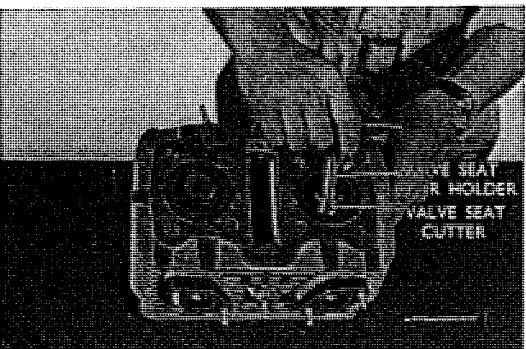

Fig. 3.36 Dressing valve seat
3. When a seat surface is excessively burned, dressing should be performed by using a 90° cutter so that the seat surface becomes even. (Refer to Fig. 3.36)